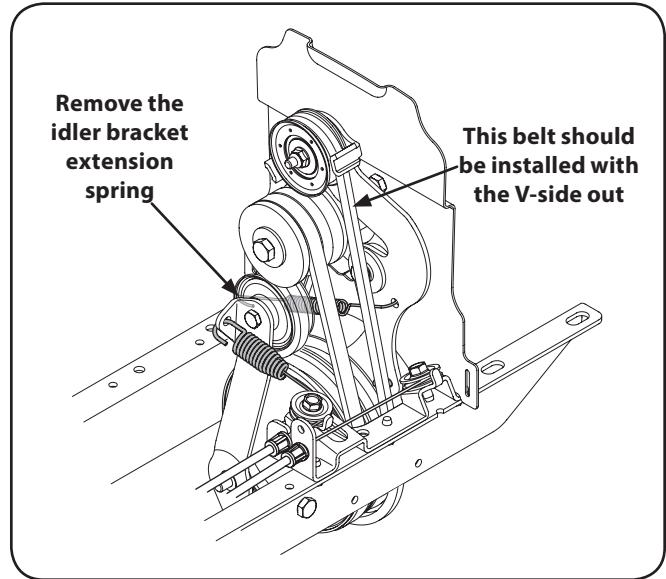

Figure 7-3
4. Remove the idler bracket extension spring, as pointed out in Figure 7-3. It is recommended to use a pair of needle-nosed pliers, and grab the spring by the end that hooks over the frame. Simply grab it and pull it away from the frame, then up wards and carefully relieve the tension of the spring.